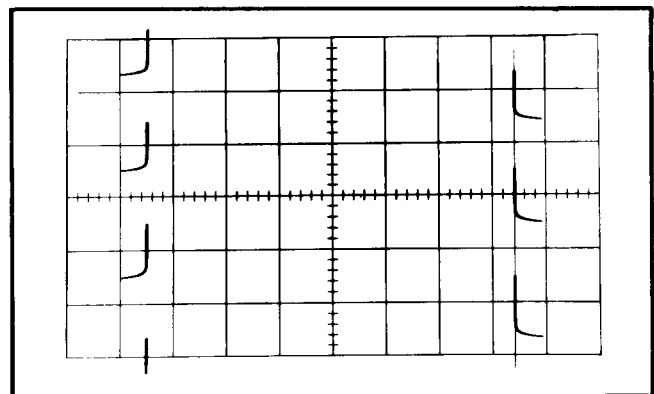

Fig. 5-12. Distortion obtained when C503C is misadjusted.
- c. Adjust C503C (see Fig. 5-2) for optimum square-wave response. The display should exhibit no more than 5% hook on the positive-going or negative-going leading corner of the calibrator waveform. When C503C is properly adjusted, the calibrator waveform should appear similar to the display shown in Fig. 5-11a. Fig. 5-12 shows one form of distortion obtained if C503C is misadjusted.